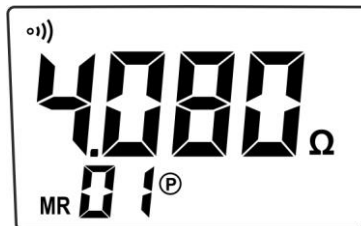

Fig. 29: Recalling result to the display
2. Press and hold the **MEM** key (>2s) to enter the memory recall mode. The "MR" symbol is shown (see Fig. 29).